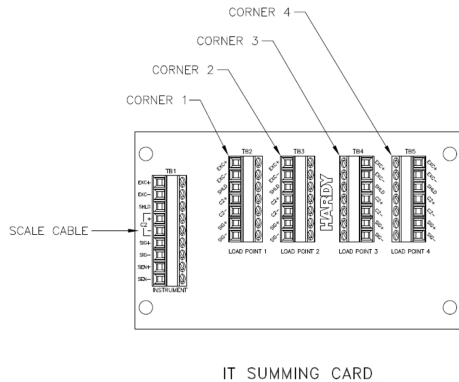

FIG. 2 HI 6011 SUMMING JUNCTION CARD
2. **Summing Junction Card Assembly** - Accessed by unfastening the 2 screws on the deck plate on the center side of the platform. (See Fig.2) The summing junction card routes the excitation voltage to each of the four load sensors and sums the weight signal back from them. The C2[®] second generation electronic calibration is included with your scale.